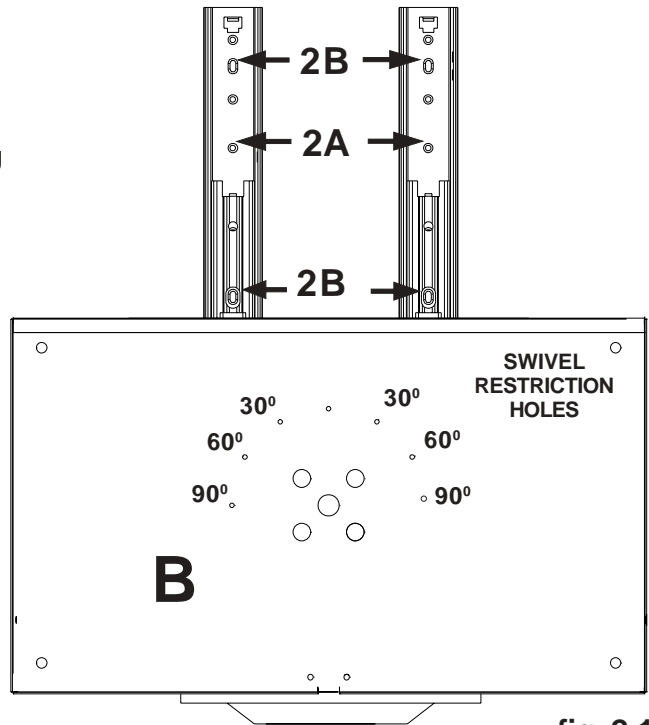

fig. 2.1
Attach bracket spacer using six # 8 x 3/4" flat head screws (G) as shown in figure 2.2. Fully extend rails on slide out unit (B). Line up holes (2A) and (2B) (see figure 2.1) in rails with holes in bracket spacer and attach using six #8-32 x 3/8" flat head phillips screws (L) as shown in figure 2.3.
Fully extend rails on slide out unit (B). Use holes (2A) in rails (see figure 2.1) as a guide to mark the two hole centers. Drill two 1/8" (3 mm) dia. holes 3/4" (19 mm) deep into mounting surface. **Note: Make sure that both rails are aligned before drilling.** Attach slide out unit (B) using two # 8 x 3/4" flat head screws (G) as shown in figure 2.3.
1-1 Set swivel restriction by inserting two screws (C) into swivel restriction holes as shown in figure 2.1.